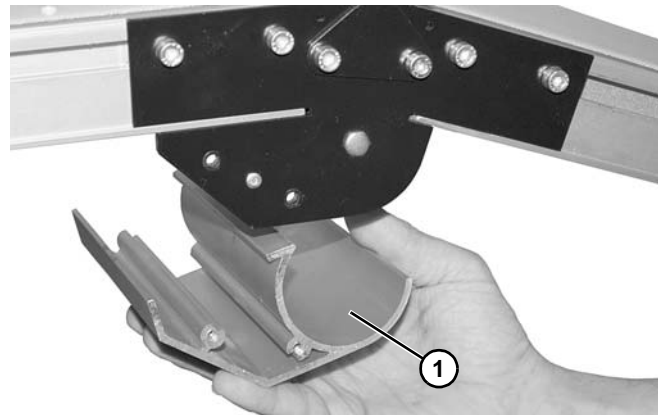

Figure 73
2. Position guard (**Figure 73, item 1**) between knuckle plates.